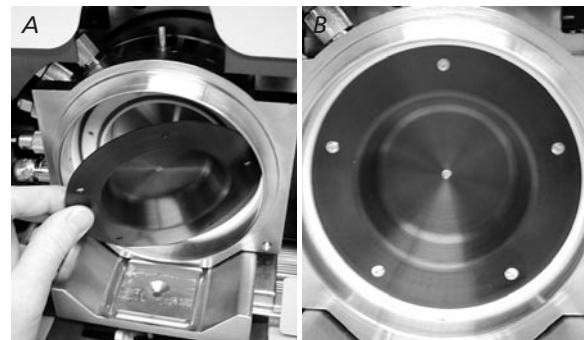

Figure 4.4: (A) Insert supplied curtain plate
- 2) Insert the supplied black PicoView curtain plate against the O-rings. Lock the new plate in place using the five button head screws (Figure 4.4).